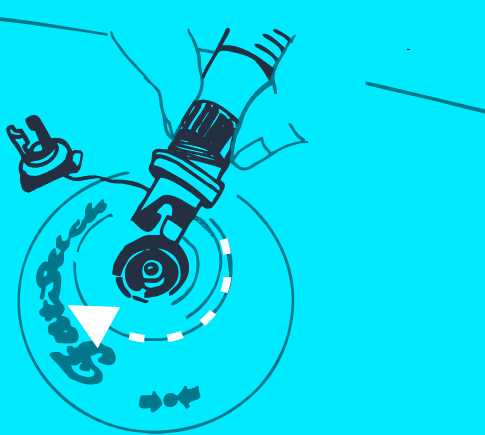

Fig 2
2. Be sure the valve of the board is closed before you begin to inflate the board. You can open/close the valve by pushing the smaller internal 'nipple'. This will click 'open-down' or 'closed-raised'. **See Fig 2**